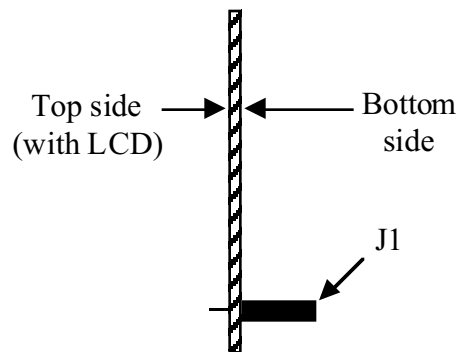

Figure 5-1
- ☐ Install a 20-pin female connector (receptacle) at J1 as shown in Figure 5-1. Do not solder yet.